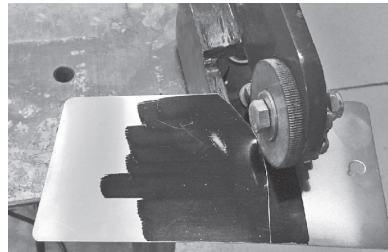

Figure 4
**NOTE:** *The mini rotary metal shear creates its trim, the unwanted cut piece, on the right. When cutting a curve make sure the unwanted portion is to the right of the upper die (Figure 4).*